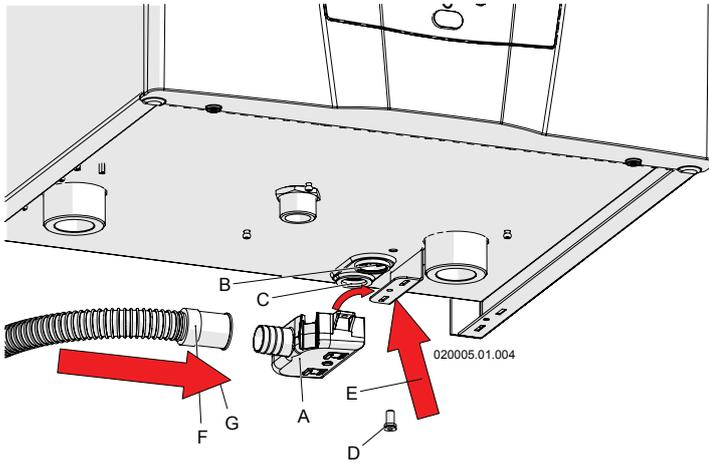
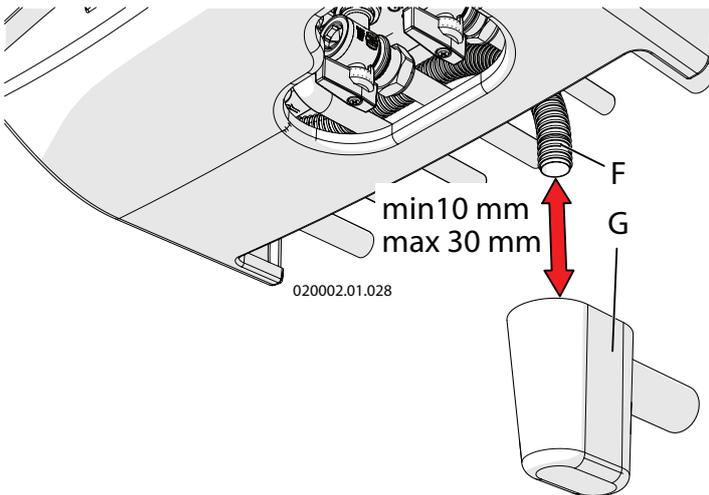

Figure 5-4 – Connecting the safety valve outlet and condensate outlet
Figure 5-6 – Siphon funnel (on request)
There is a siphon inside the boiler for the evacuation of condensate (see figure 3-2, detail "33") and to prevent combustion products from escaping. The end of the siphon is pipe "B" in figure 5-4. This end must be conveyed into another, anti-odour siphon (figure 5-6, detail "G") to prevent bad odours returning to the environment (the anti-odour siphon "G" is supplied on request).
Tank "A" is supplied ready assembled as shown in figure 5-4 and secured with screw "D", outlet pipe "F" is also installed as shown in figure 5-4.
- ☞ be for rooms used for residential purposes and for offices with more than 10 users; it can be connected to the domestic waste disposal plant by means of appropriate siphon with disjunction, capable of preventing the pressurisation of the system (the siphon is inside the boiler) and the return of bad odours from the sewers (detail "G" in figure 5-6). If the room used for office purposes has fewer than 10 users, before connecting up the domestic waste drain, install a condensate neutraliser (see section 9 for the acidity value of the condensate and the quantities).
The appliance is protected against overpressures by a safety valve calibrated to 3 bar (see figure 3-2 detail "30"). The safety valve outlet (detail "C" in figure 5-4), along with the condensate outlet (detail "B" in figure 5-4) must be conveyed to pipe "F" (see figure 5-4) with a minimum internal diameter of 13 mm; pipe "F" must then be taken to the anti-odour siphon (detail "G", figure 5-6). This drain with a siphon is used to prevent overpressures if the valve is opened, and it allows the user to check possible intervention.
Pipe "F" in figure 5-6 is supplied assembled as standard together with tank "A" in figure 5-4. The anti-odour siphon "G" in figure 5-6 is provided on request.